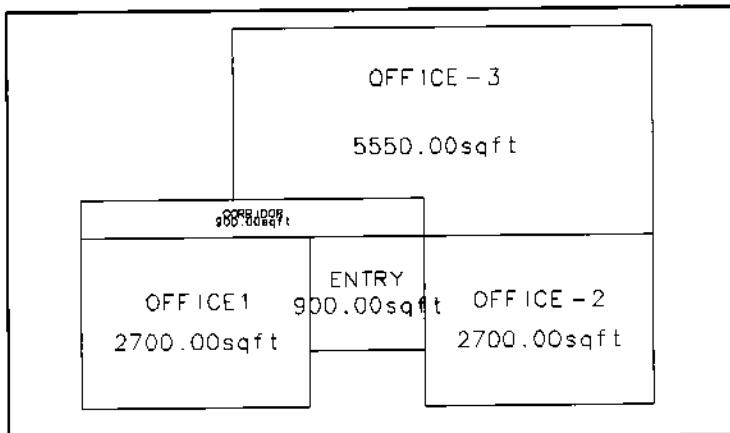

Figure 30.
6. The room name and area appear attached to the crosshairs automatically after selecting CLOSE, or manually when selecting <Done> from the side menu. The completed space is shown in Figure 30.
- > Pick insertion point: [a box appears temporarily; select a point in the center of OFFICE-3 and the box will change into text and area as shown in Figure 30]